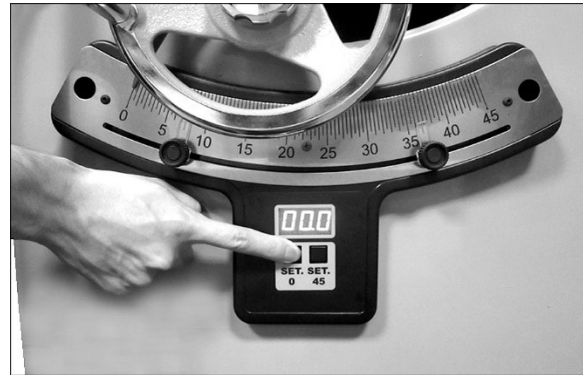

Figure 8-13
3. If saw blade is relatively close to 0°, set blade to exactly 0° and press "SET 0" button. Readout will display 0.00. See Figure 8-13.